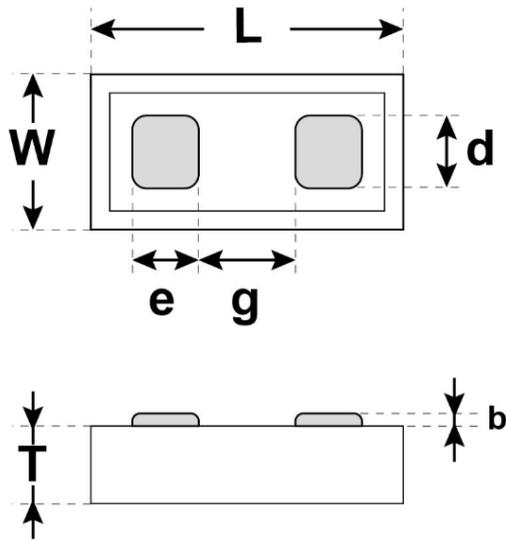

Figure 8 - Package outline drawing
- (1) Other Film Frame Carrier are possible on request
- (2) SAC = ENIG (0.1µm Au / 5µm Ni) + SAC305 type 6 or ENIG 0.1µm Au / 5µm Ni
- (3) Missing capacitors can reach 0.5%
- (4) Refer to Figure 8
- (5) For all demands including Mass Production